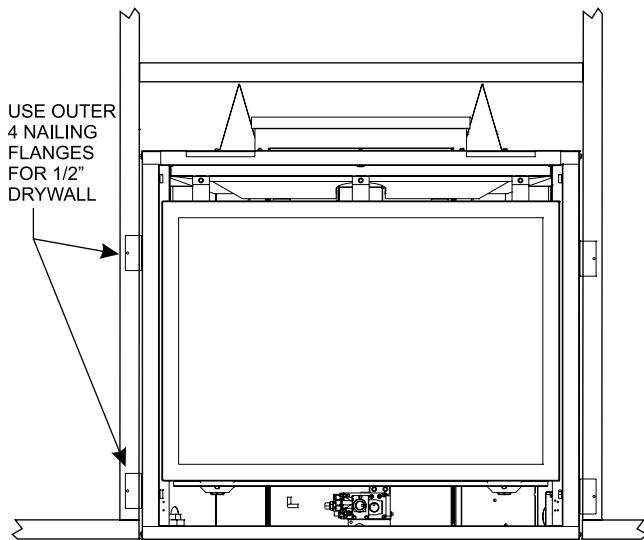

Figure 10
3. Attach fireplace to frame using adjustable nailing flange. Preset depth to suit facing material (adjustable to 3/8", 1/2" or 3/4" depths). **NOTICE:** Fireplace must mount flush to facing material. If facing material requires more depth than 3/4", mark and drill two 1/8" holes into fireplace side at appropriate depth. Bend standoff tabs as needed to move fireplace flush with facing material. **See Figure 10.**
Attention: When fireplace is installed in optional full cabinet mantel or corner mantel the four nailing flanges shown in **Figure 10** will not be installed on the side of outer casing. The fireplace will be attached to the full cabinet mantel or corner mantel with the two nailing flanges located on the top of the outer casing assembly.